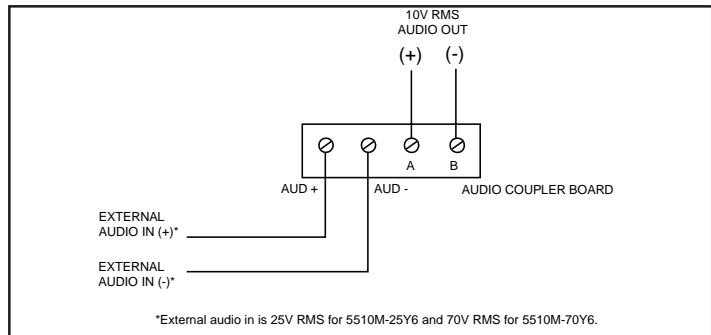

Figure 4. Wiring Audio Signal Leads to 5510M
2. Install wires through a knockout hole in the bottom of the box from a raceway that is, with its connections to the 1/2" (12.7 mm) conduit knockout hole, approved for the same degree of protection and enclosure type needed by the application. Use the provided plastic tie-wrap, on the barrier to the electronics, to separate incoming power leads from signal and tone initiating leads, per NEC (Figures 4, 5 and 6).
- b. See Figure 4. **For 5510M-25Y6**, connect 25V RMS audio input (+) to the AUD (+) terminal on the Audio Coupler Board. Connect 25V RMS audio input (-) to the AUD (-) terminal on the Audio Coupler Board.
- c. See Figure 4. **For 5510M-70Y6**, connect 70V RMS audio input (+) to the AUD (+) terminal on the Audio Coupler Board. Connect 70V RMS audio input (-) to the AUD (-) terminal on the Audio Coupler Board.